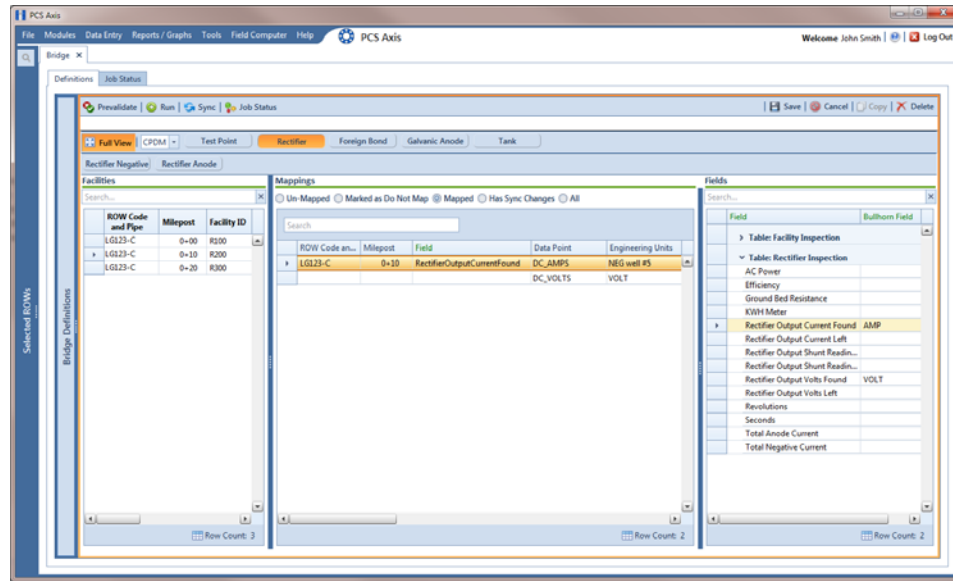

Figure 10-46. PCS Axis and Bullhorn Mappings
- 8 Click  **Save** and then click  **Full View** to hide the *Name*, *Bullhorn Token*, *Time Period*, and survey folder fields. Clicking *Full View* again displays these fields (Figure 10-46, page 501).
10 Choose the type of facility data you plan to import. Click a facility type button, such as *Rectifier* (Figure 10-46, page 501).